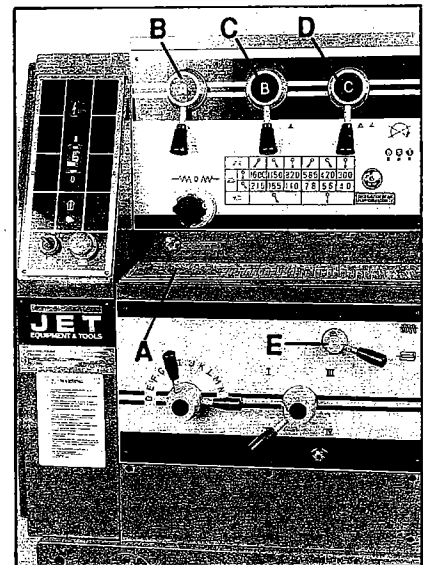

Fig. 21
1. Reference the feed and thread tables (A, Fig. 21) found on the gear box faceplate.
2. Move levers (B, C, D, & E, Fig. 21) to the appropriate positions according to the chart.